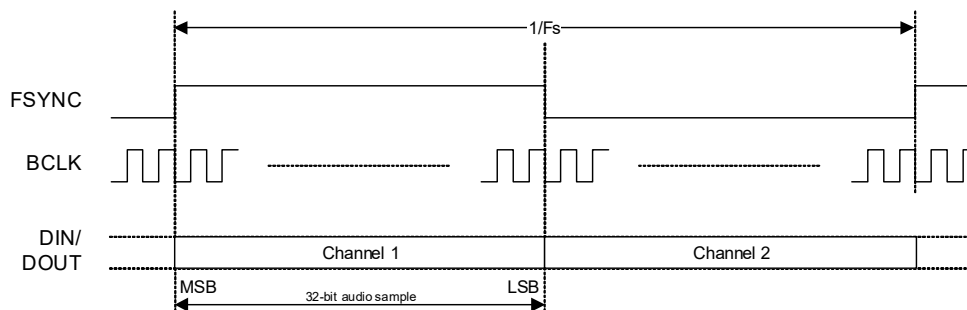

Figure 4-21. Left-Justified Data Format
- If Left-Justified data format is selected, the ASP supports audio channels 1–2 as shown in Fig. 4-21. The minimum BCLK rate is $64 \times F_s$ (where F_s is the sample rate). In ASP Primary Mode, the minimum BCLK rate of $64 \times F_s$ is not supported for sample rates of 16 kHz or 32 kHz. A higher BCLK frequency can be used, resulting in unused BCLK cycles between the LSB of one sample and the MSB of the next.